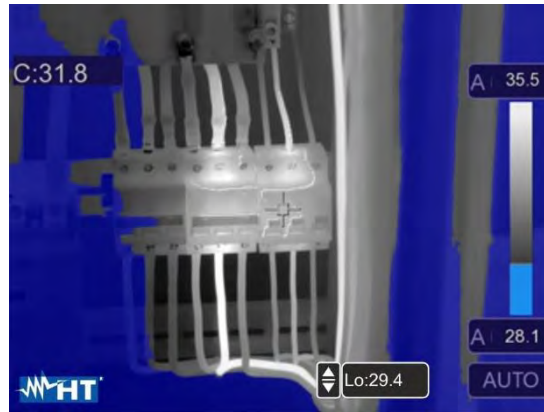

Fig. 42: Selection of isotherm line Alarm low Temp.
7. Touch the “Lo” field at the bottom of the display and use the arrow keys ▲ or ▼ to set the value of the **minimum** temperature threshold below which the instrument shows image spots in blue colour, and the remaining spots in grey colour (see Fig. 42).